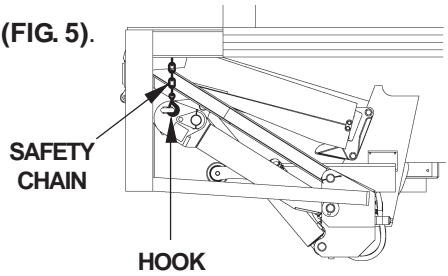

FIG. 5
1. Unhook Safety Chain from Liftgate (FIG. 5).